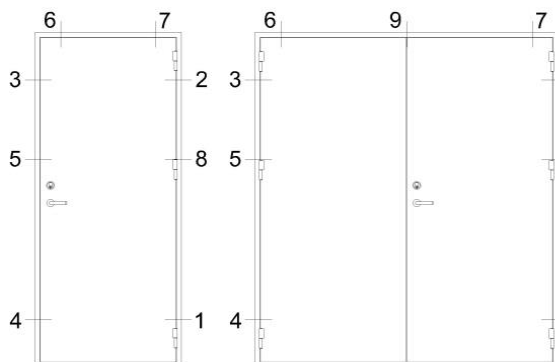
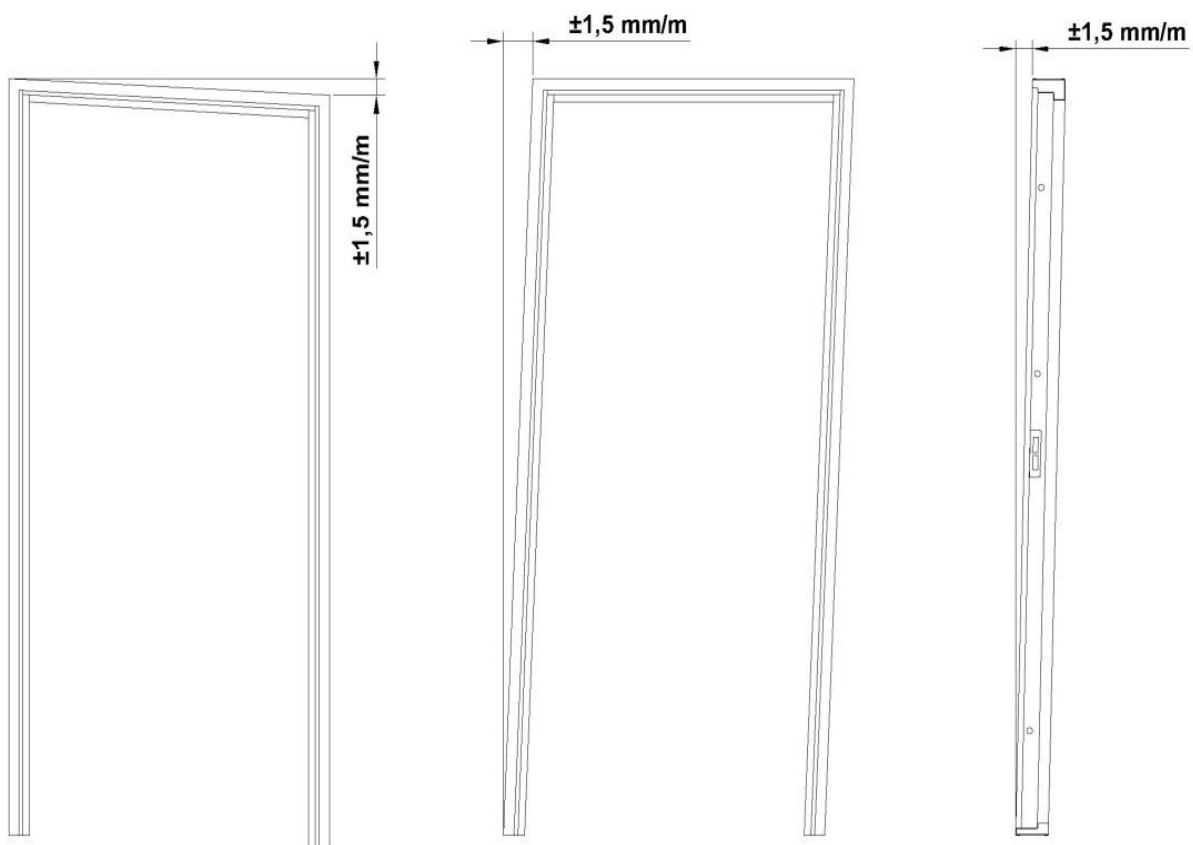

Figure 1 – Layout of fasteners SMU101/201
Figure 11 – Door frame installation tolerances
- 10) Fix the fasteners 1, 2 and 3 (see Figures 1, 2, 3 and 4) so that the threshold (if there is one) and the hinge-side door post are level. See Figure 11.
- 12) Fix the fastener 4 (See Figures 1; 2; 3 and 4).